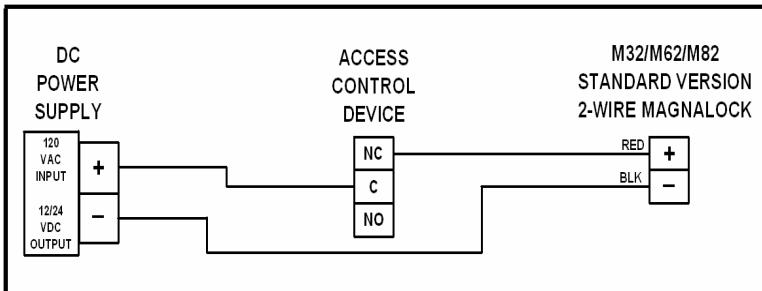
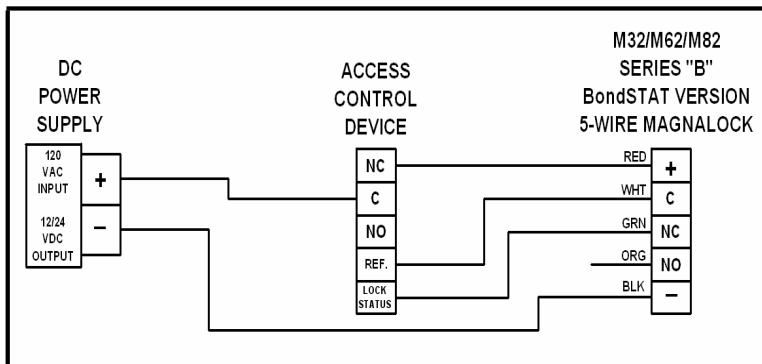
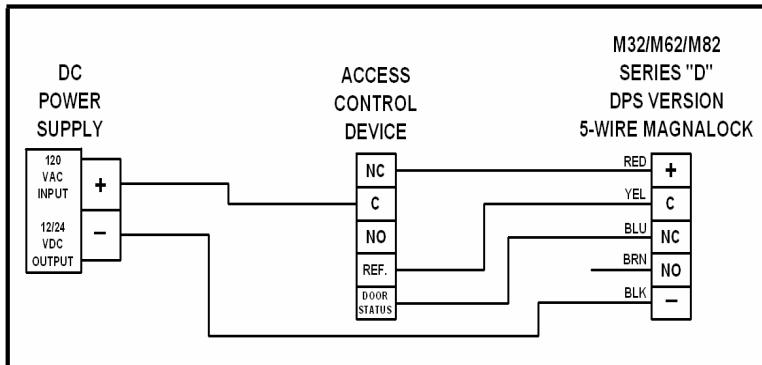
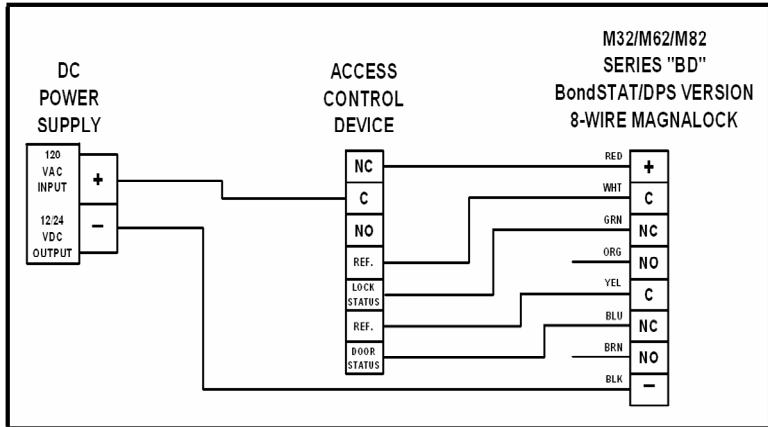

Figure 20. Typical Magnalock Wiring
Figure 21. Connections for BondSTAT "B" Version
Figure 22. Connections for DPS "D" Version
Figure 23. Connections for “BD” Version
6. CONNECT the wiring per Figure 20, "Typical Magnalock Wiring," Figure 21, "Connections for BondSTAT 'B' Version," Figure 22, "Connections for DPS 'D' Version," and Figure 23, "Connections for 'BD' Version."
NOTE 1: In Figure 21, the green and white wires supply electrical connection when the lock is ON and secure.
NOTE 2: In Figure 21, the orange and white wires supply electrical connection when the lock OFF or unsecure.
NOTE 1: In Figure 22, the blue and yellow wires supply electrical connection when the door condition is closed.
NOTE 2: In Figure 22, the brown and yellow wires supply electrical connection when the door condition is open.